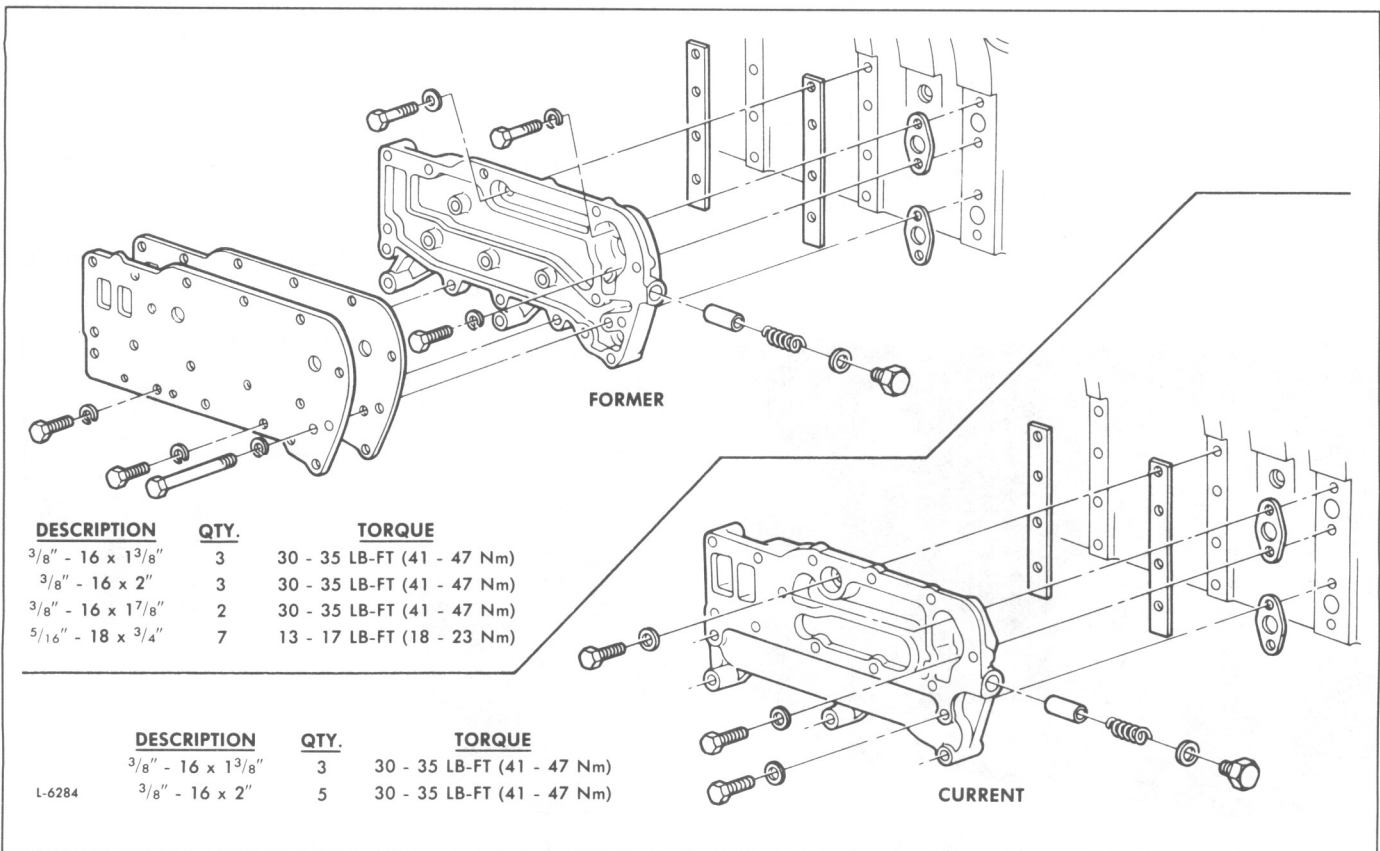

Fig. 4 – Former and Current Oil Cooler Configuration
1. If the oil cooler adaptor was removed, use new gaskets and attach the adaptor to the cylinder block with bolts and lock washers (Figs. 4, 8 and 9). If a twin plate oil cooler is used, use a new gasket and attach the adaptor plate to the oil cooler adaptor.